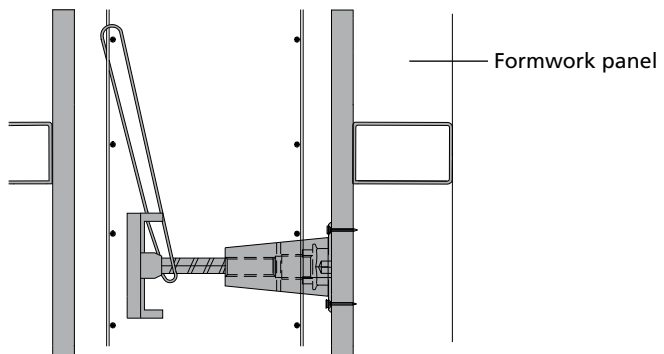

Fig. 14.2
6. Secure the anchor plate to the rebar using additional wire or additional rebars (Fig. 14.2).